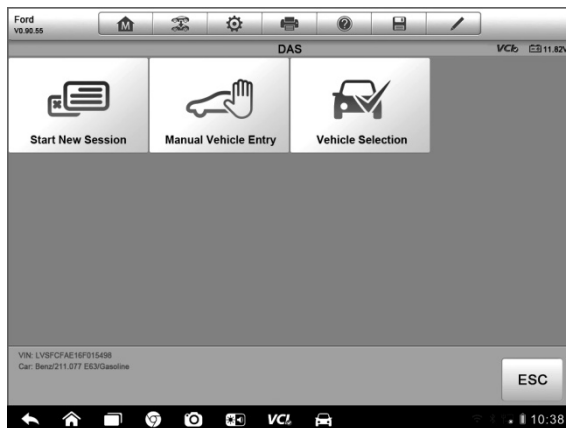

Figure 4-5 Sample Vehicle Selection Menu
4. Select **Manual Vehicle Entry** from the Vehicle Selection Menu. (*Figure 4-5*) A series of information screen displays, tap **Yes** to continue.